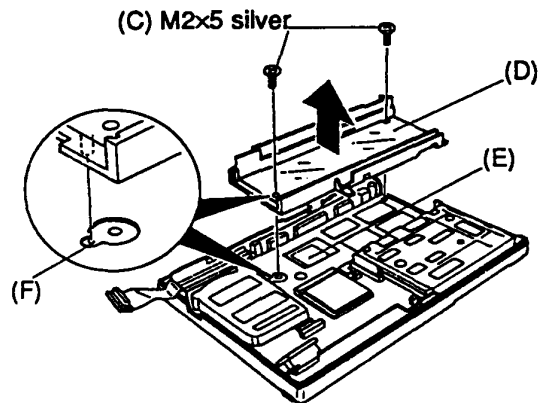

Figure 4-20 Removing the battery pack case
5. A locator notch (F) under the left end of the assembly secures the case to the base assembly. Gently squeeze the assembly to release the locator notch.
6. Lift the battery pack case out of the computer and set it aside (Figure 4-20).
1. Align the battery pack case with the base assembly. Set the locator tab into the locator notch on the base assembly and press it into place (Figure 4-20).
2. Secure the battery pack case in place with the two (M2x5 silver) screws (Figure 4-20).